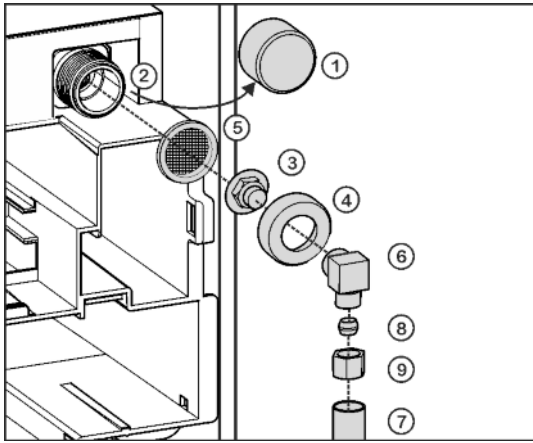

Fig. 27
- ▶ Remove the cap Fig. 27 (1) from the solenoid valve Fig. 27 (2).
- ▶ Insert the coupler Fig. 27 (3) in the union nut Fig. 27 (4).
- ▶ Insert the water filter Fig. 27 (5) with the recess pointing down towards the coupler Fig. 27 (3).
- ▶ Lock the union nut Fig. 27 (4) onto the solenoid valve Fig. 27 (2) and tighten.
- ▶ To turn the water connection 90°, tighten the elbow connector Fig. 27 (6) if necessary.
- ▶ Connect the water supply Fig. 27 (7) (e.g. copper) with the aid of the clamp ring Fig. 27 (8) and nut Fig. 27 (9) to the coupler Fig. 27 (3) or elbow connector Fig. 27 (6).